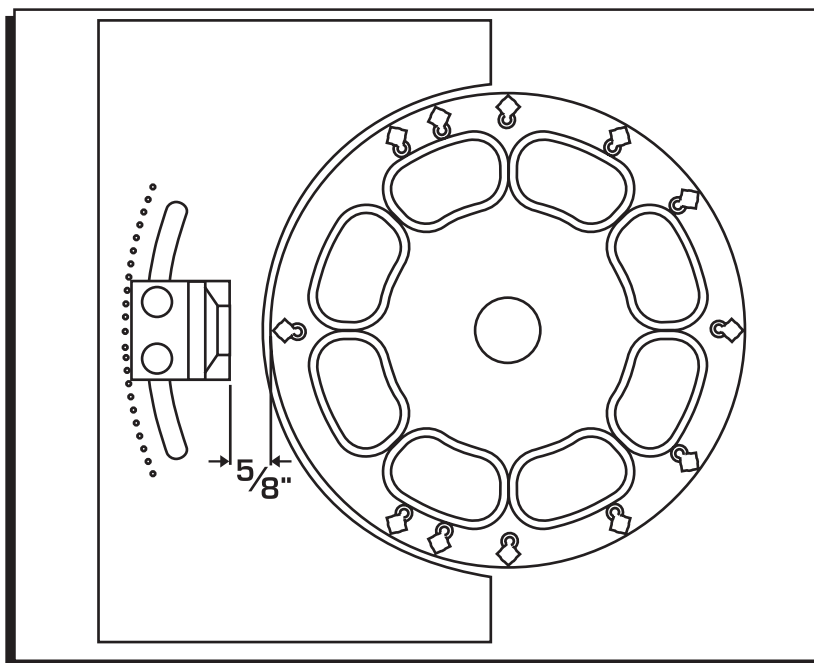

Figure 3 Pickup Bracket Placement.
- The pickup must be spaced $5/8$ " away from the trigger wheel (Figure 3). This is required so the air gap between the pickup and trigger wheel will remain constant through its adjustment range.